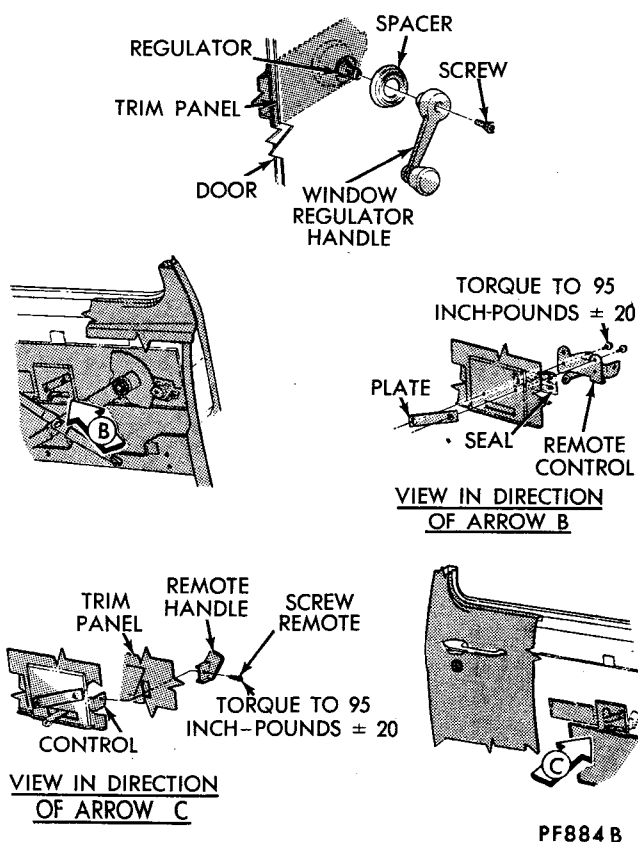

Fig. 34—Remote Control and Regulator Handle—Front Door
REMOTE CONTROL AND REGULATOR HANDLE—FRONT DOOR (Fig. 34)
- (1) Remove door regulator window glass handle shown in (Fig. 34).
- (2) Remove remote control handle.
- (3) Remove trim panel.
- (4) Working through access hole remove linkage and mounting plate to remote control.